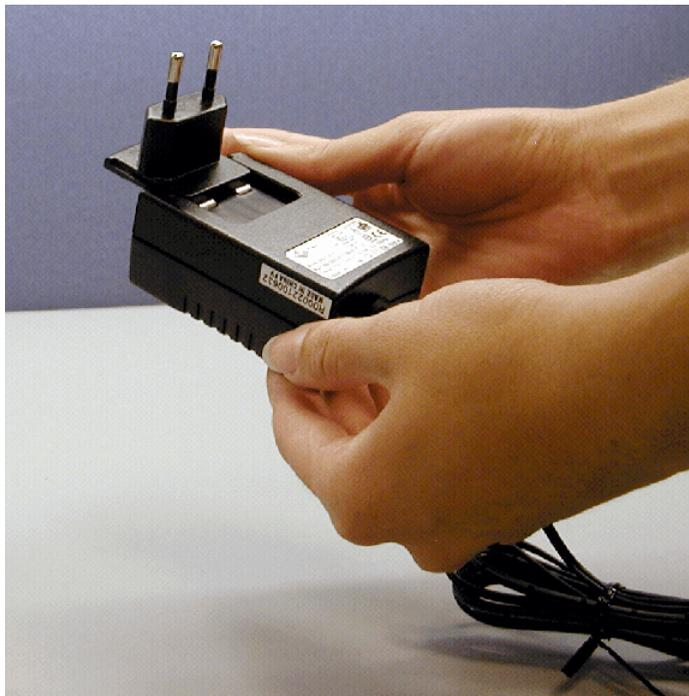

Figure 15. Inserting a New Plug Configuration
4. Push the new plug configuration down until it snaps into place, as indicated in Figure 15.